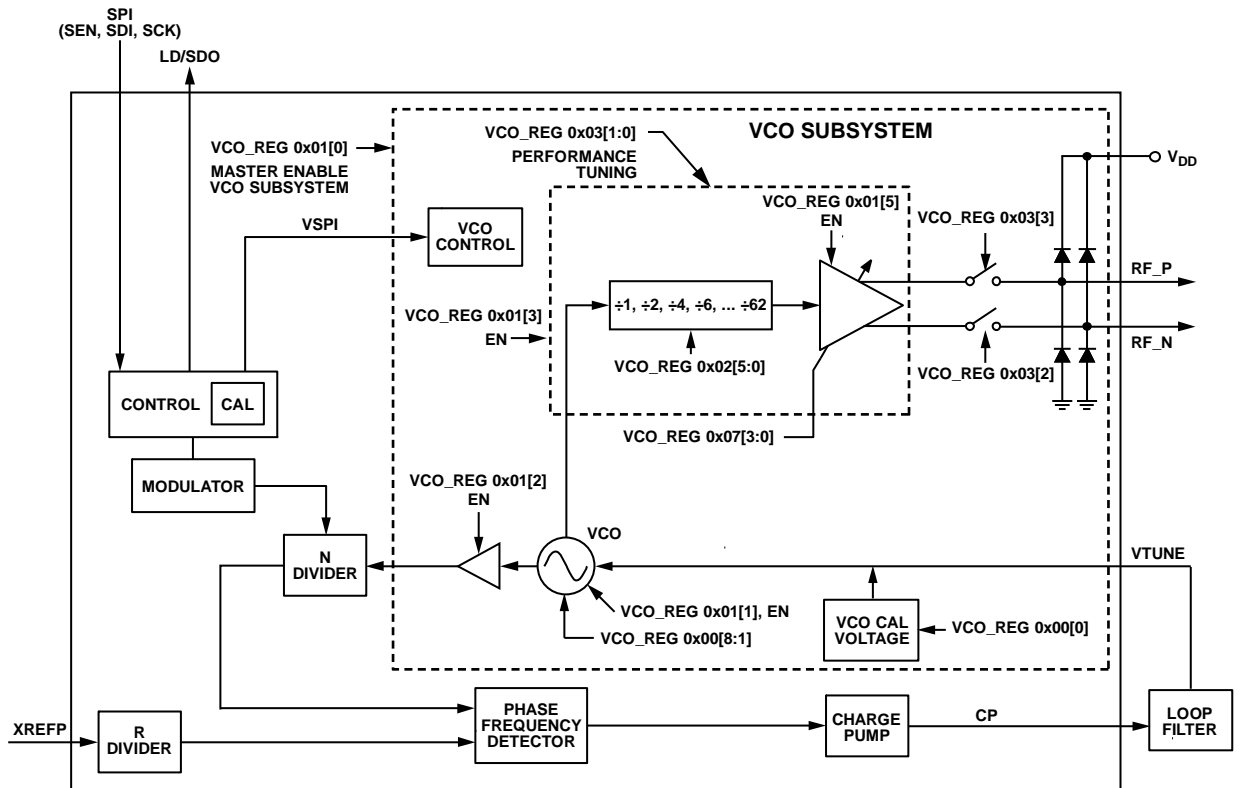

Figure 39. PLL and VCO Subsystems
All modes are VCO register programmable, as shown in Figure 39. One loop filter design can be used for the entire frequency of operation of the HMC832A.
- The VCO SPI register, Register 0x05. This write is required only for manual control of VCO if Register 0x0A[11] = 1, autocalibration is disabled, or to change the VCO output divider value (VCO_REG 0x02). See Figure 39 for more information.
The VCO subsystem registers are not directly accessible. They are written to the VCO subsystem via PLL Register 0x05. See Figure 39 and the VCO Serial Port Interface (VSPI) section for more information about the VCO subsystem SPI.